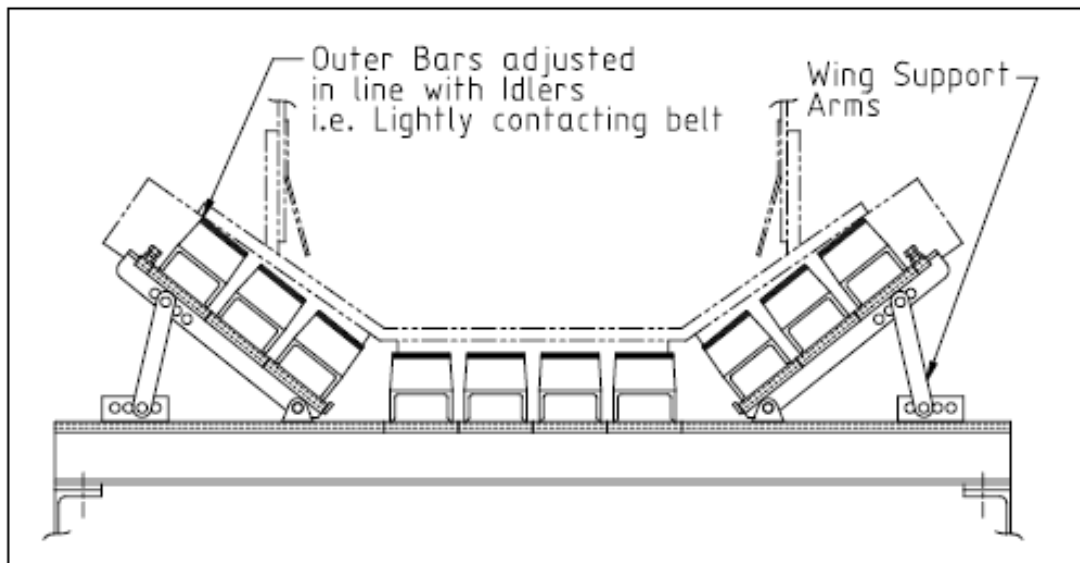

Figure 4 - Wing Adjustment
- Using the multiple hole adjustment, adjust the wing support arms so that the outer bar is brought up to be in line with the troughing idler rollers (Fig 4).